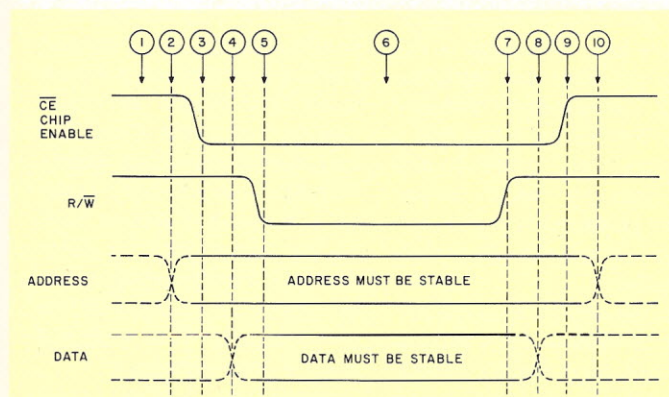
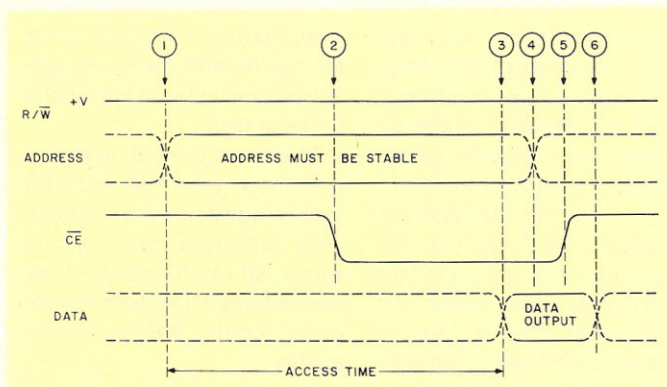

Fig. 8. Switching time waveforms for a 2102 write cycle.
Fig. 9. Switching time waveforms for a 2102 read cycle.
**Theory:** The sequence of steps required to use the RAM is shown in the manufacturer's data in the form of switching time waveforms as shown in Fig. 8 for a write and Fig. 9 for a read.
To store a bit in a certain address, follow this procedure; the number of each of the following steps is shown circled in Fig. 8:
2. Place an appropriate address on the ten address lines. As shown in Fig. 8, to the left of the 2 dotted line, we have shown the address line dotted as well. This means that it doesn't matter what is on these lines at that time. But from time 2, all the way to time 10, the address lines must all be stable at either 0 or 1. This is why there are two curves drawn for the address lines, one high and the
A manufacturer's specification sheet will give various minimum times for the sequence shown in Fig. 8. For instance, the sheet may say that at least 200 ns must pass from the time that the address is applied to the time the read/write line goes low, or that the data must remain stable for at least 100 ns after the read/write line goes back high. In your experiment you do not have to worry about these minimum times since you will be working in seconds rather than billionths of seconds, but if you were designing a computer system you would have to read the specification sheets very carefully.
Fig. 9 shows the switching times for a read cycle. To read, we would have to follow this sequence of steps:
The total time for the entire cycle is called the read cycle time, but another time is often quoted and that is the read access time shown in Fig. 9. This is the time from when the address is first applied to the time data first starts to come out. Typical access times for small home computers range from 600 ns down to as low as 250 ns. Much faster RAM memories are available, but not yet used to any great extent in small computers since they are faster than the microprocessors used with them. Very fast memory ICs would be used in large computers that use TTL or ECL ICs in the processor.